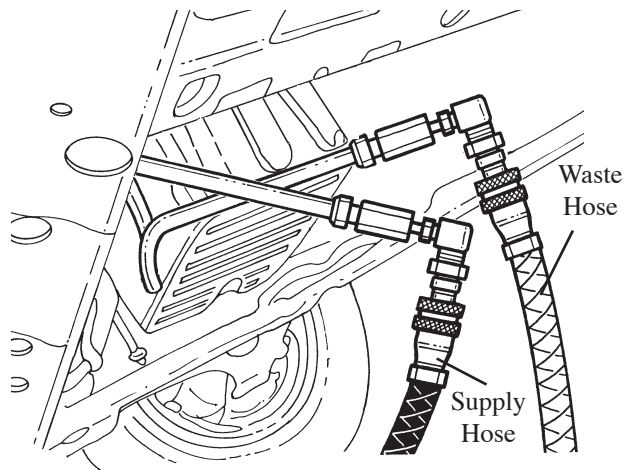

**Figure 3**
9. Connect the assembled adapters to the vehicle's T.O.C. supply and return lines at the transmission. **See Figure 3.**